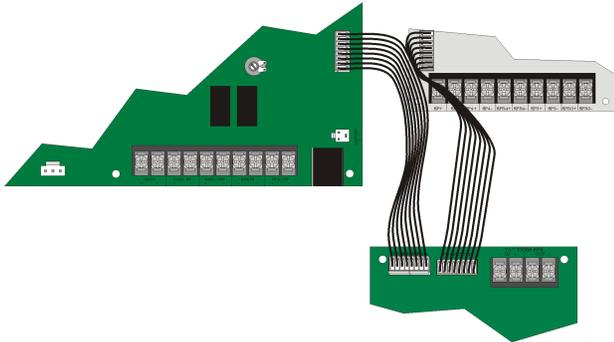

Figure 3: Wire Harness Connection From the Main Control to the SKE-V70
Connect the SKE-V70 to the main control panel using the supplied wire harness. See Figure 3.
1. Connect one harness from the main control to the SKE-V70 connector marked “FROM CONTROL”. See Figure 3.
2. Connect the other harness from the SKE-V70 connector marked “TO SPLITTER” to the connector on the SKE-ZN4 or -ZN6 as shown in Figure 3.